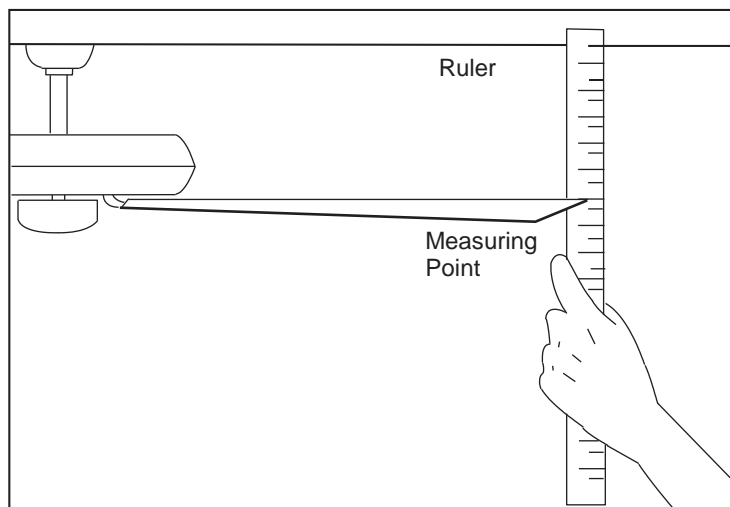

Fig. 25
- 3) Blade tracking may be checked simply by use of a household ruler as shown in the below Figure. 25. Place the ruler vertically against the ceiling. Line up the outside edge of one of the blades of the ceiling fan and note the measurement on the ruler. Turn the blade slowly by hand to check that the other remaining blades match up to the same point on the ruler. If the blades are not aligned it may mean that a blade may be out of shape or warped or the screws securing the blades to the motor are not evenly tightened or are too loose.